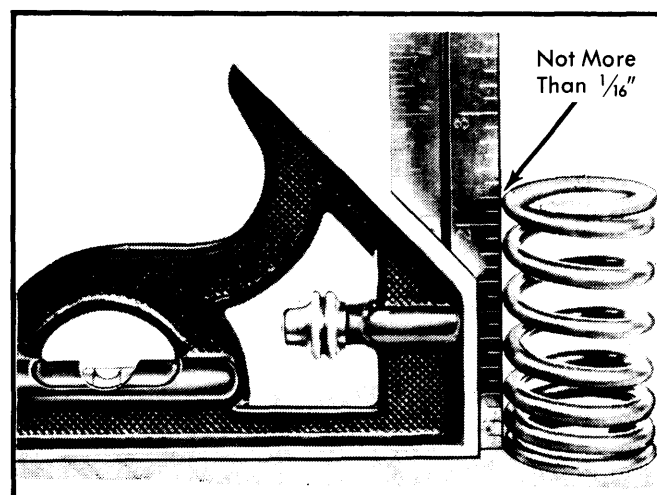

Fig. 5 Valve Spring Squareness Test
2) Each spring must be tested for squareness by using mechanics square and flat surface. See Fig. 5. Test each spring from both ends. Spring should be square within 1/16".